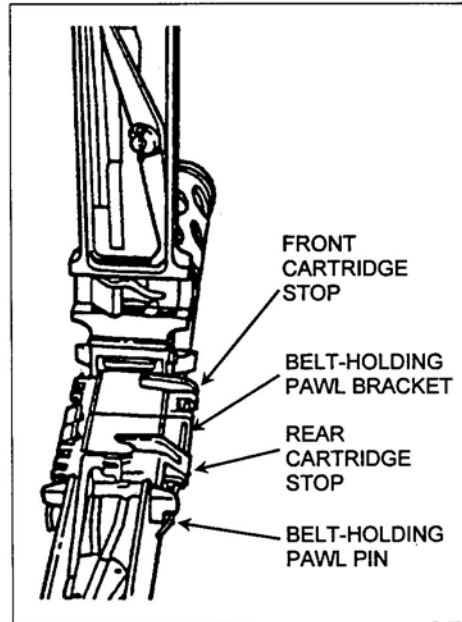

Figure 24. Installation of the rear cartridge stop assembly and front cartridge stop.
- (1) Determine the direction of feed. Figure 24 shows left-hand feed. Place the right-hand rear cartridge stop assembly and front cartridge stop on the belt-holding pawl bracket.